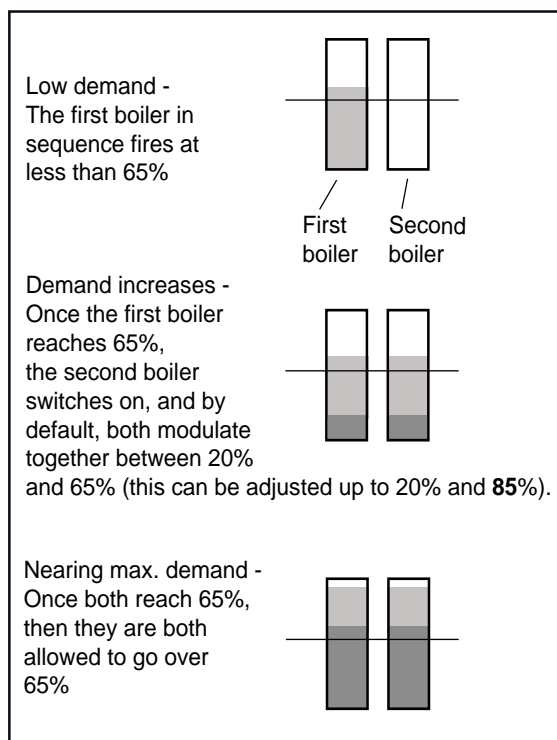

Figure 42. Lead Lag Operation, 2 boilers.
- If the heating demand increases so that the firing rate of that first boiler rises to your boiler configurations Base Load Value (see **Figure 42** or **Figure 44**), the next boiler in the sequence will start up and begin firing at 20 to 35% fan speed (depending on your configuration). After this, the entire configuration of boilers will modulate up or down together, in reaction to the changes in demand.